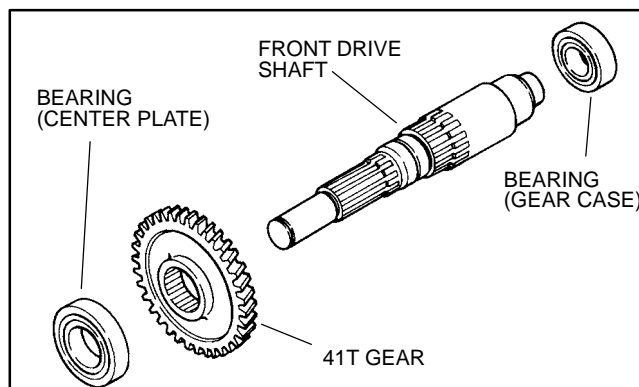

Figure 56
5. **On 4WD units**, inspect 41T gear and front drive shaft (Fig. 56):